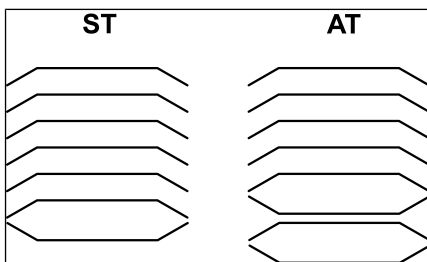

Fig.9: Location of disk springs
1. Place the head plate (4) on the intermediate plate (3) according to the felt-tip pen marking.
2. Put on the disk springs (5) (for location, see Fig. 9).
3. Put on the cap nuts (6) and tighten them (tightening torque: 2 Nm).